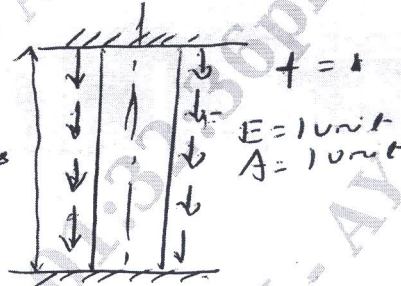

Fig Q2(b)
b. Use the R-R method to find the displacement at the midpoint of the rod shown in Fig Q2(b).